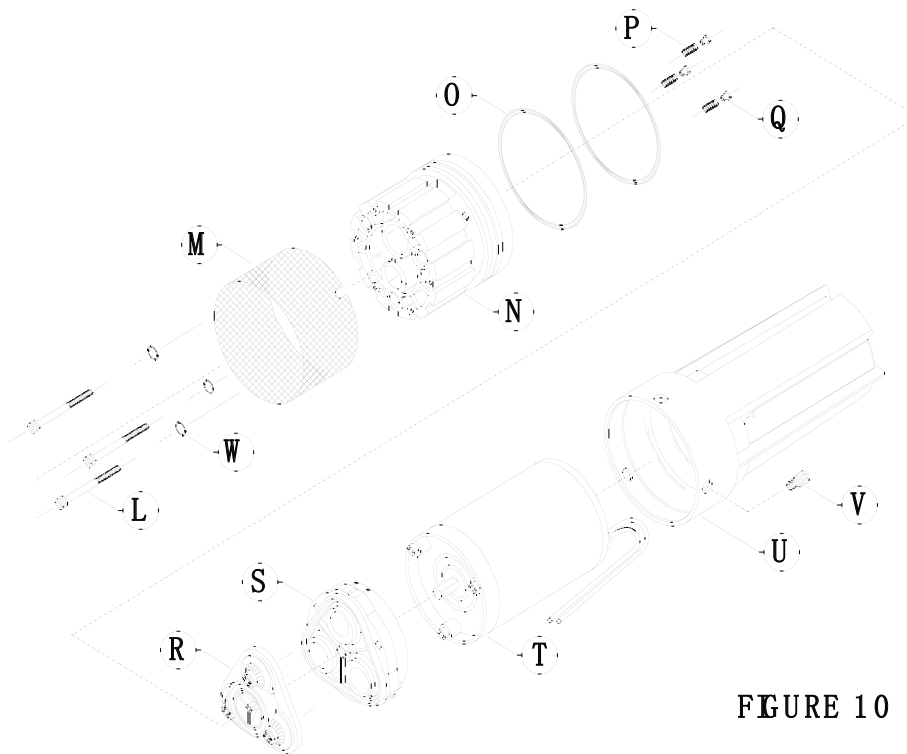

FIGURE 10
7) **Slide off the Filter Screen (Part M) (Fig. 10).**
8) **Remove the Canister (Part U) (Fig. 10).**
9) **Remove Upper Housing (Part N) and Motor (Part T) (Fig. 10).**